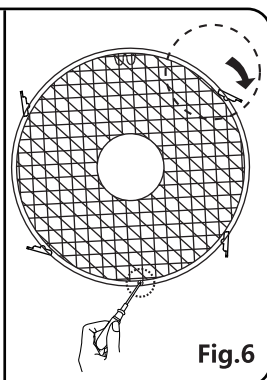

Fig.6
3. Align the front guard hook to the rear guard. Fasten the front guard to the rear guard using the guard clip. Then, tighten the fan guard by locking the screw and nut. (Fig. 6)